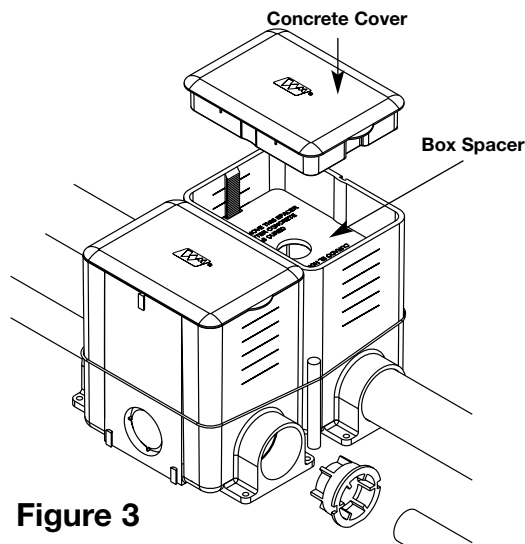

Figure 3
4. Cement conduit closure plugs to unused ports or use conduit reducers if reduction is required. Knockout must be removed from closure plug for use on 1/2" trade size conduit (see Figure 3).
5. Secure the box assembly to prevent floating during concrete pour. For above grade, screw or nail the assembly to the concrete form. For on-grade applications, drive stakes or rebar next to the box and secure with wire. Make sure the stakes are below the 3 1/2" [89mm] min. screed line (see Figure 3).